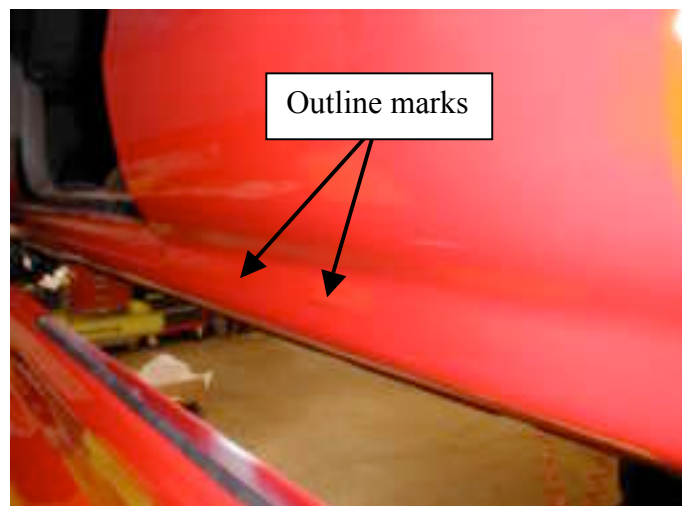

Figure 3
2. Pre-fit the skirt by using the TRD-supplied screw (Phillips) and the hole in the wheel well area of the skirt to line up the part in front. The adhesive that runs the length of the skirt should match up to the seam that runs along the bottom of the cab. Make sure the skirt runs level along the side of the vehicle. Mark the perimeter of the part with a grease pencil or masking tape (Figure 3).